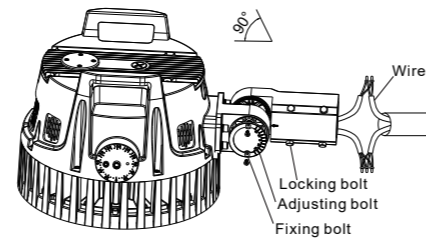

Figure 14
1. Loosen the 4 locking bolts on the slip fitter, connect the wire correctly and put the wire into pole. Then fasten the locking bolts between slip fitter and the pole. (Figure 14)
- Notice: Adjustable angle is 0-90° (Figure 14).